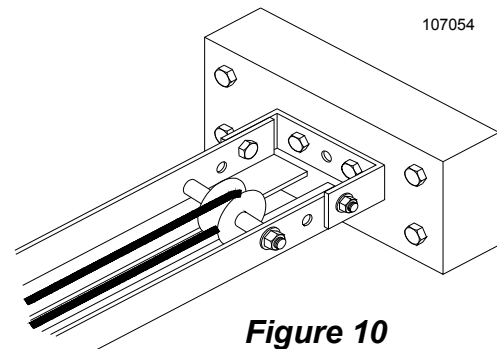

Figure 10
7) Tighten securely the two (2) bolts, nuts and washers that were loosely attached in Step 5. See Figure 10.